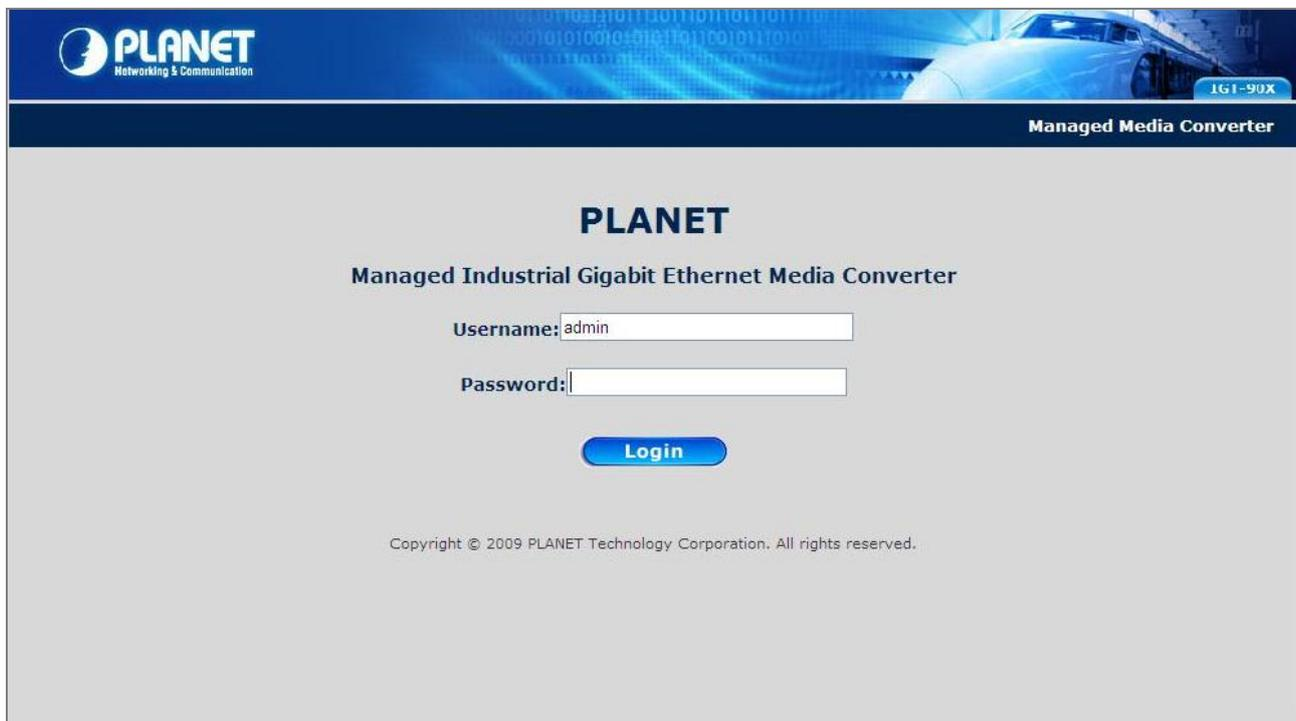

Figure 3-2 Login Web Page screen
4. Press “**Connect to Device**” button then the Web login screen appears in Figure 3-2.